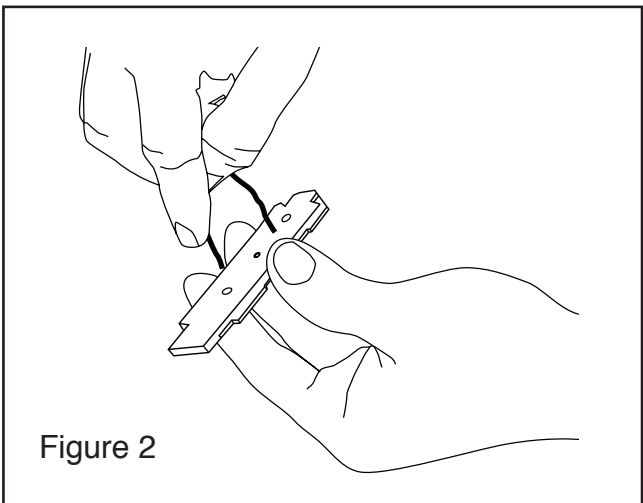

Figure 2
**B. Mount Using the Wire Bracket.** (see figures 2 through 6)